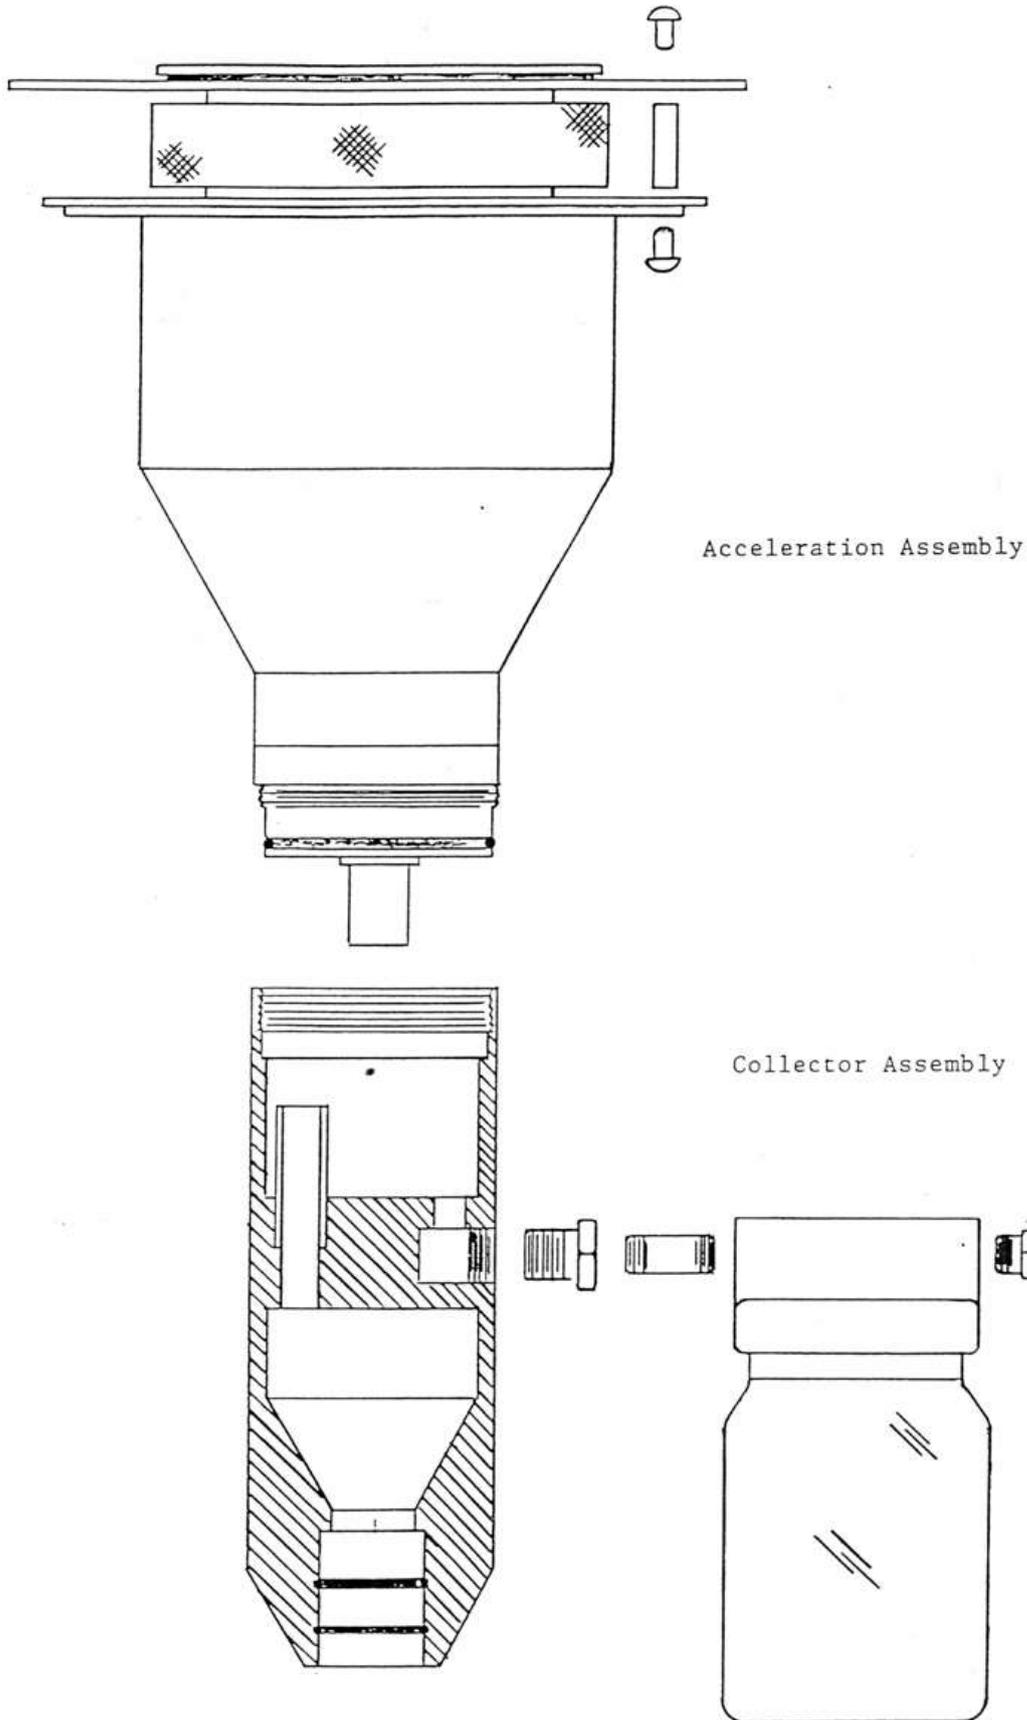

Figure 18-2 TEOM PM₁₀ Sampling Inlet
4. Separate the upper and lower inlet halves by unscrewing (counter-clockwise) the acceleration assembly from the collector assembly (see Figure 18-2).